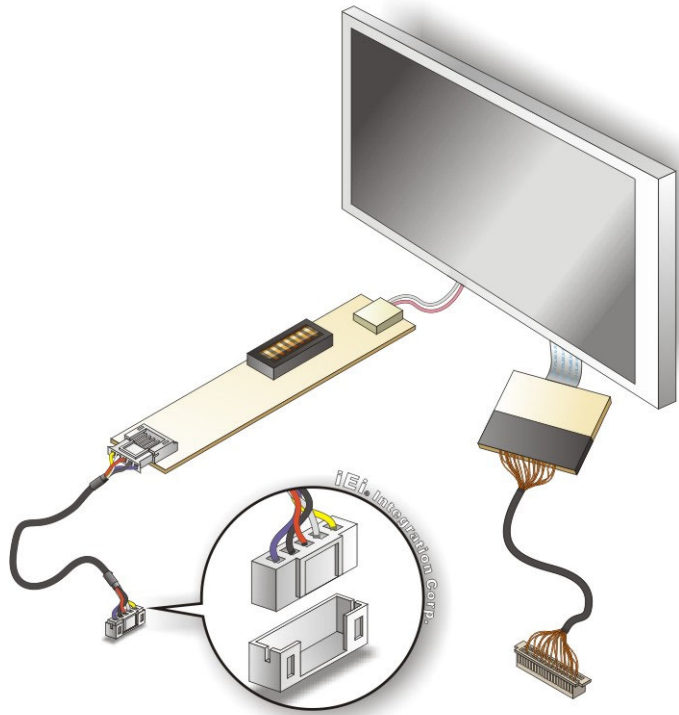

Figure 4-14: Backlight Inverter Connection
- Step 4:** **Connect backlight connector.** Connect the backlight connector to the driver TFT LCD PCB as shown in **Figure 4-14**. When inserting the cable connector, make sure the pins are properly aligned.